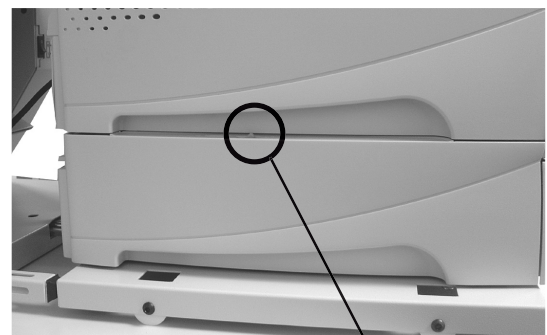

Fig. 8
3. Secure the printer to the bottom feed tray with the locking mechanism located on the backside of the printer. (Fig. 8)